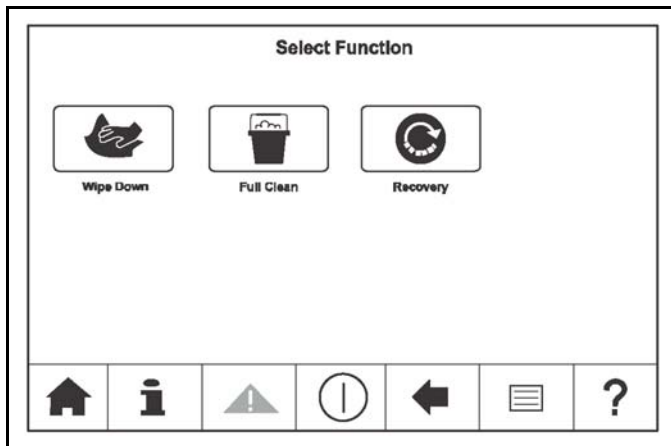

Figure-25
10. Selecting the Clean key  allows the operator to select the clean option. See Figure-25.